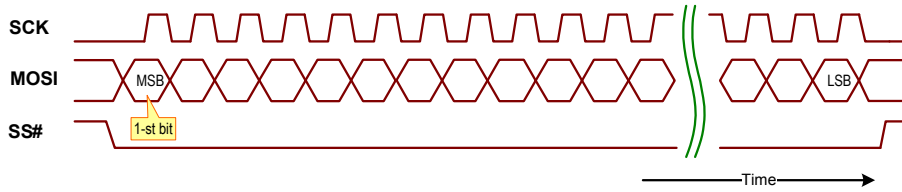
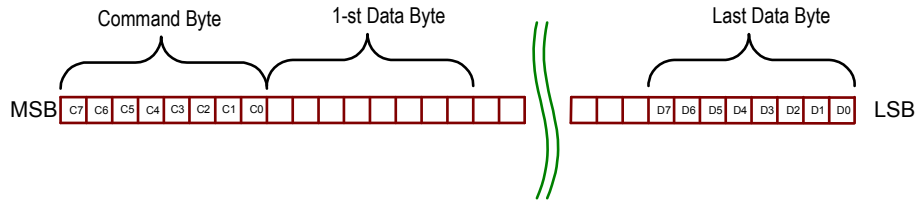

Figure 11: DSG SPI writing cycle diagram
Figure 12: Command and data bytes
DSG SPI commands consist of one command byte C[7:0] following by N data bytes. Number of data bytes (N) depends on the particular command. Data on MOSI signal line are latched on rising edge of SCK signal as shown on figure 11. MSB (Most Significant Bit) is loaded first, LSB (Least Significant Bit) – last. The first is the command byte C[7:0] all other bytes are data (fig. 12). The command byte works as the address for multiplexer implemented in CPLD and defines the destination where to transfer following data – to one of the SPI channels or to one of the static registers, and the type of operation – writing or reading.